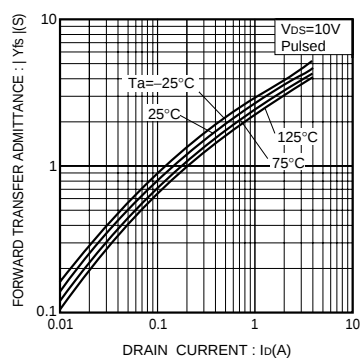

Fig.10 Forward Transfer Admittance vs. Drain Current
Figure 10 is a graph showing the Pulsed Drain Current (I_d) versus Drain-Source Voltage (V_{ds}) for the device. The graph includes the following parameters:
Figure 10 is a line graph showing the relationship between Gate Threshold Voltage (V_{th}) and Channel Temperature (T_{ch}) for a MOSFET at $V_{ds}=10V$. The Y-axis represents V_{th} in Volts (V), ranging from 0 to 4. The X-axis represents T_{ch} in degrees Celsius ($^{\circ}C$), ranging from -50 to 150. Two curves are plotted: one for $I_d=10mA$ and one for $I_d=1mA$. Both curves show a decrease in V_{th} as T_{ch} increases. The $I_d=10mA$ curve is consistently higher than the $I_d=1mA$ curve.
Figure 10 is a log-log plot showing the relationship between Static Drain-Source On-State Resistance ($R_{DS(on)}$) and Drain Current (I_D) for the 75°C, 25°C, and -25°C temperature conditions. The y-axis is labeled "STATIC DRAIN-SOURCE ON-STATE RESISTANCE : $R_{DS(on)}(\Omega)$ " and ranges from 0.1 to 10. The x-axis is labeled "DRAIN CURRENT : $I_D(A)$ " and ranges from 0.01 to 10. The plot shows that resistance decreases as current increases and as temperature decreases. A legend indicates $V_{GS}=4V$ and Pulsed operation.